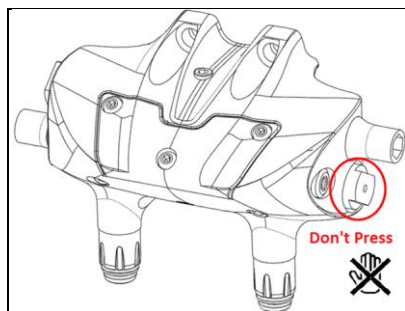

Fig. J-1 Do not press the cylinder
- Please do not press the circled cylinder section before the brake assembly is complete. Pressing the cylinder before assembly may cause unexpected braking characteristics. (**Fig. J-1**)